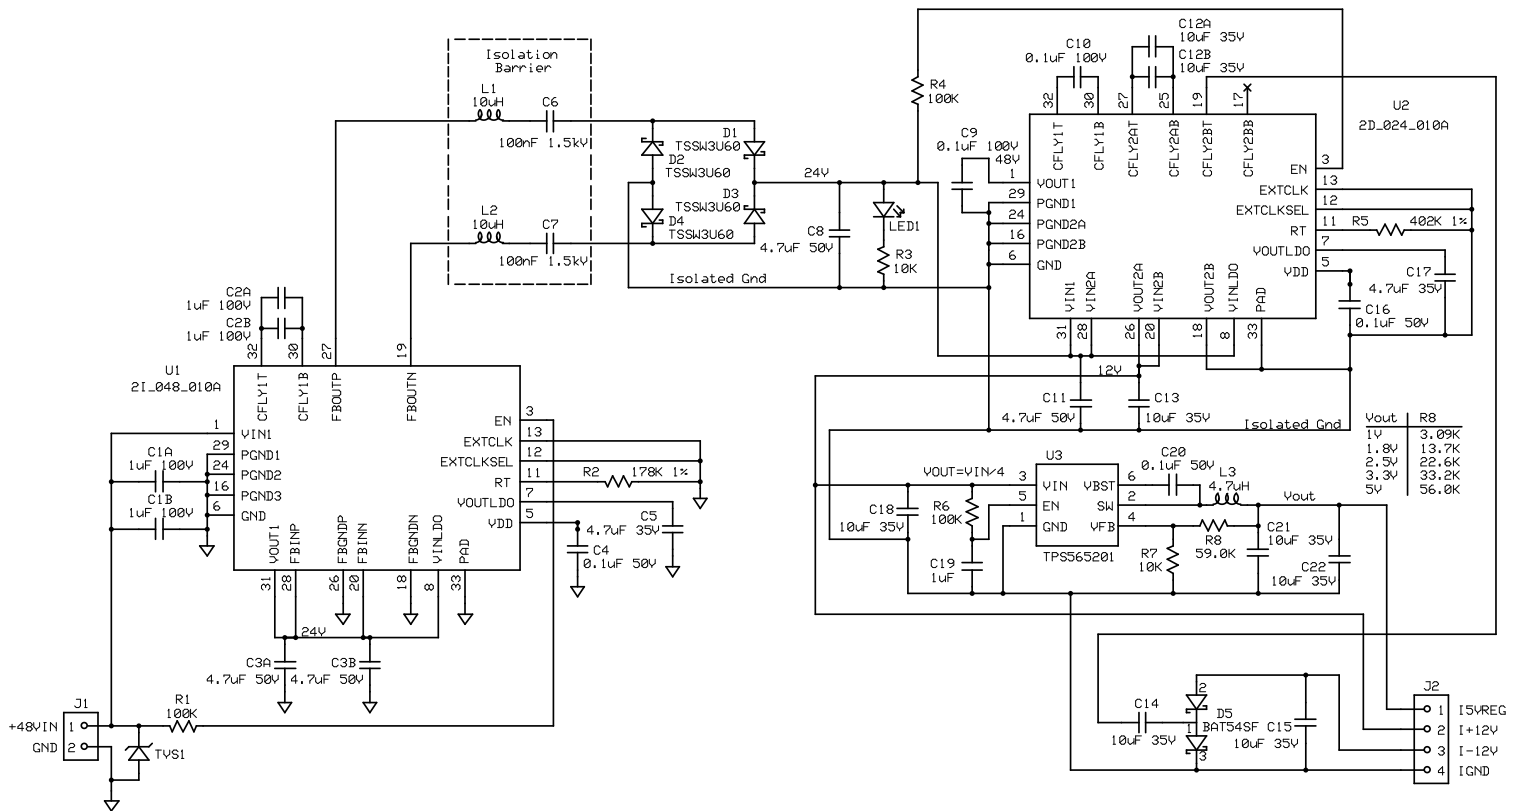

Figure 14: MxC 273 48V to ±12V & +5Vreg Output TL EVB Schematic
- 3) Other buck regulator output voltages are available by changing R8. Refer to the VOUT Table in Figure 14 schematic.
- 3) Other buck regulator output voltages are available by changing R7. Refer to the VOUT Table in Figure 14 schematic.